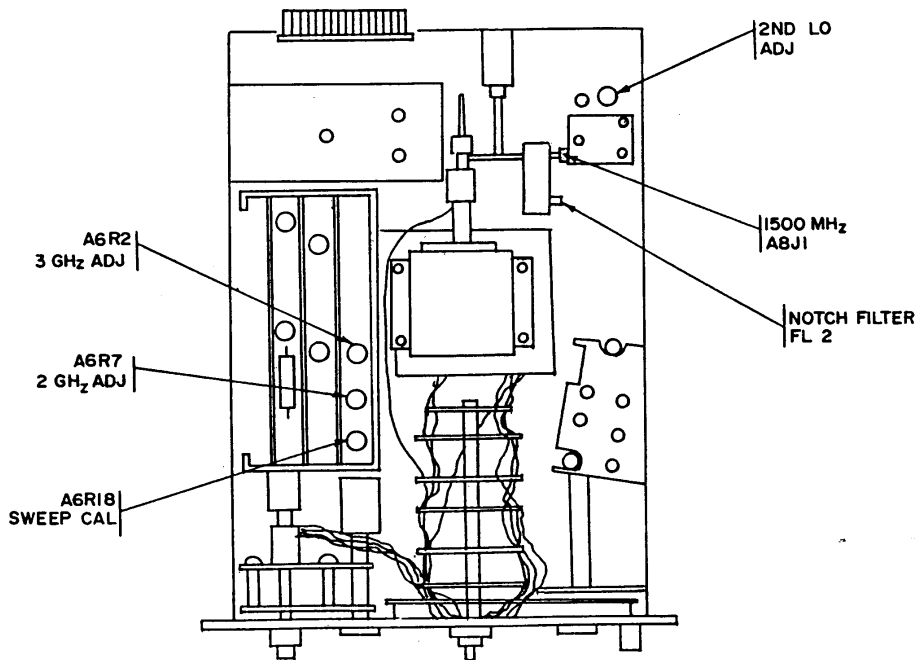

Figure 11. Test instrument - adjustment locations.
(1) Connect frequency counter to 1500 MHz A8J1 (fig. 11), using cable (Hewlett-Packard, Model 115926001, part of service kit). **NOTCH FILTER FL2** assembly (fig. 11) must be disconnected and removed for this connection.
(2) Adjust **2ND LO ADJ** (fig. 11) as necessary to obtain frequency counter indication between 1499.9 and 1500.1 MHz (R).
(3) Disconnect frequency counter and reinstall **NOTCH FILTER FL2** assembly removed in (1) above.
(4) Set **PER DIVISION** switch to **100 kHz** and **SCAN WIDTH PER DIVISION** switch to **20 MHz**.
(5) Set IF plug-in **SCAN TRIGGER** switch to **LINE**.
(6) Adjust **FREQUENCY** control to **0 MHz**.
(7) Adjust **A6R2 3 GHz ADJ** (fig. 11) to place local oscillator feed-through signal at center graticule line on display (R).
(8) Adjust **FREQUENCY** control for 1000.0 MHz.
(9) Adjust **A6R7 2 GHz ADJ** (fig. 11) to place 1000 MHz signal pip at center graticule line on display (R).
(10) Set **SCAN WIDTH PER DIVISION** switch to **2 MHz** and repeat (6) through (9) above until displayed pip appears within  $\pm 1$  division of center graticule line with **FREQUENCY** control settings of 0 and 1000 MHz.
(11) Set **PER DIVISION** switch to **300 kHz** and **SCAN WIDTH PER DIVISION** switch to **100 MHz**.
(12) Adjust **FREQUENCY** and **FREQUENCY FINE TUNE** controls to place local oscillator feed-through signal at left graticule line.
(13) Adjust signal generator for output frequencies of 200, 400, 600, 800, and 1000 MHz, respectively. Note position of signal pips on display.
(14) Adjust **A6R18 SWEEP CAL** (fig. 11) to position pips to coincide with their respective graticule lines (R).
(15) Repeat paragraphs **26a** through **27a** above.